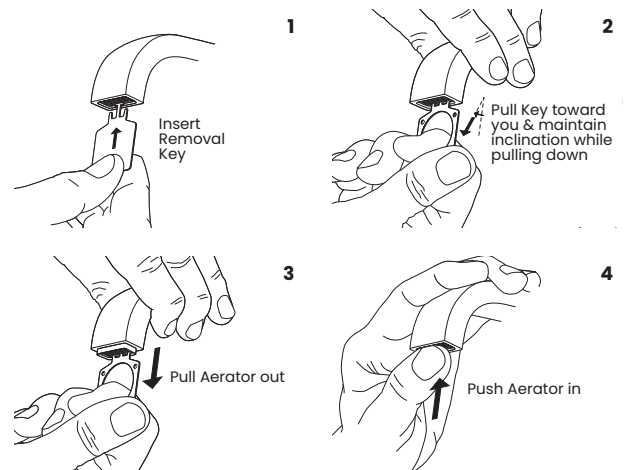

FIGURE 7.2
- 7.3 Using the Aerator Removal Key provided, remove Aerator (19) from the Spout (17 or 18) according to Figure 7.2 (1-3). Turn on the water supply and flush any debris out of the system. Turn off the water and replace the Aerator according to Figure 7.2 (4).